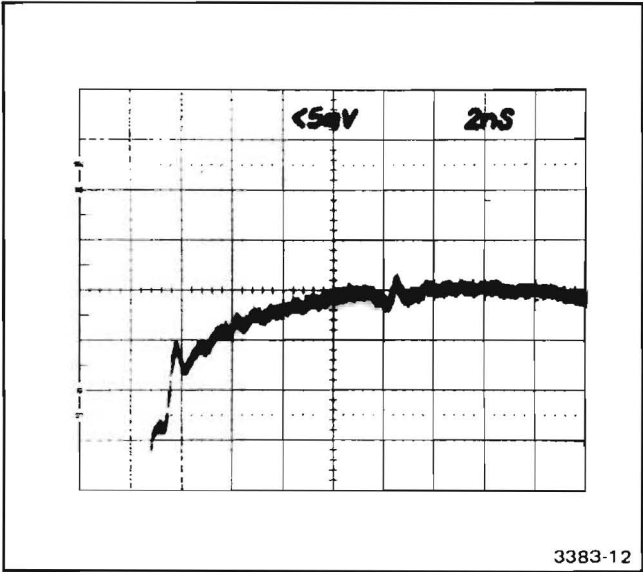

Fig. 4-2. Typical response curve of sampling system.
- r. Using the 7S11 Dc Offset, center the step top in the display area. Refer to Fig. 4-2.
- t. The sampling system aberrations can now be determined and noted (for use in checking risetime and aberrations). Refer to Fig. 4-2.